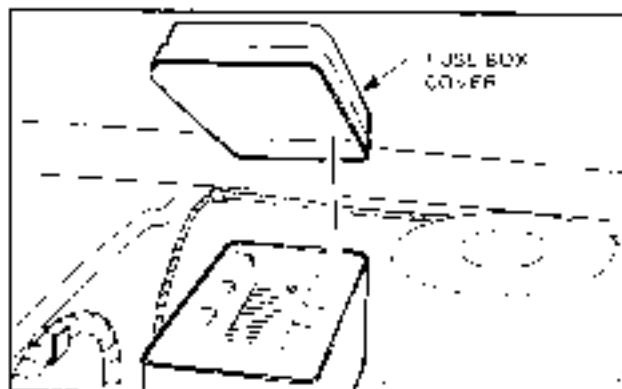

Figure 6C-104
2. Pull out relay from its position. Refer Fig. 6C-105.